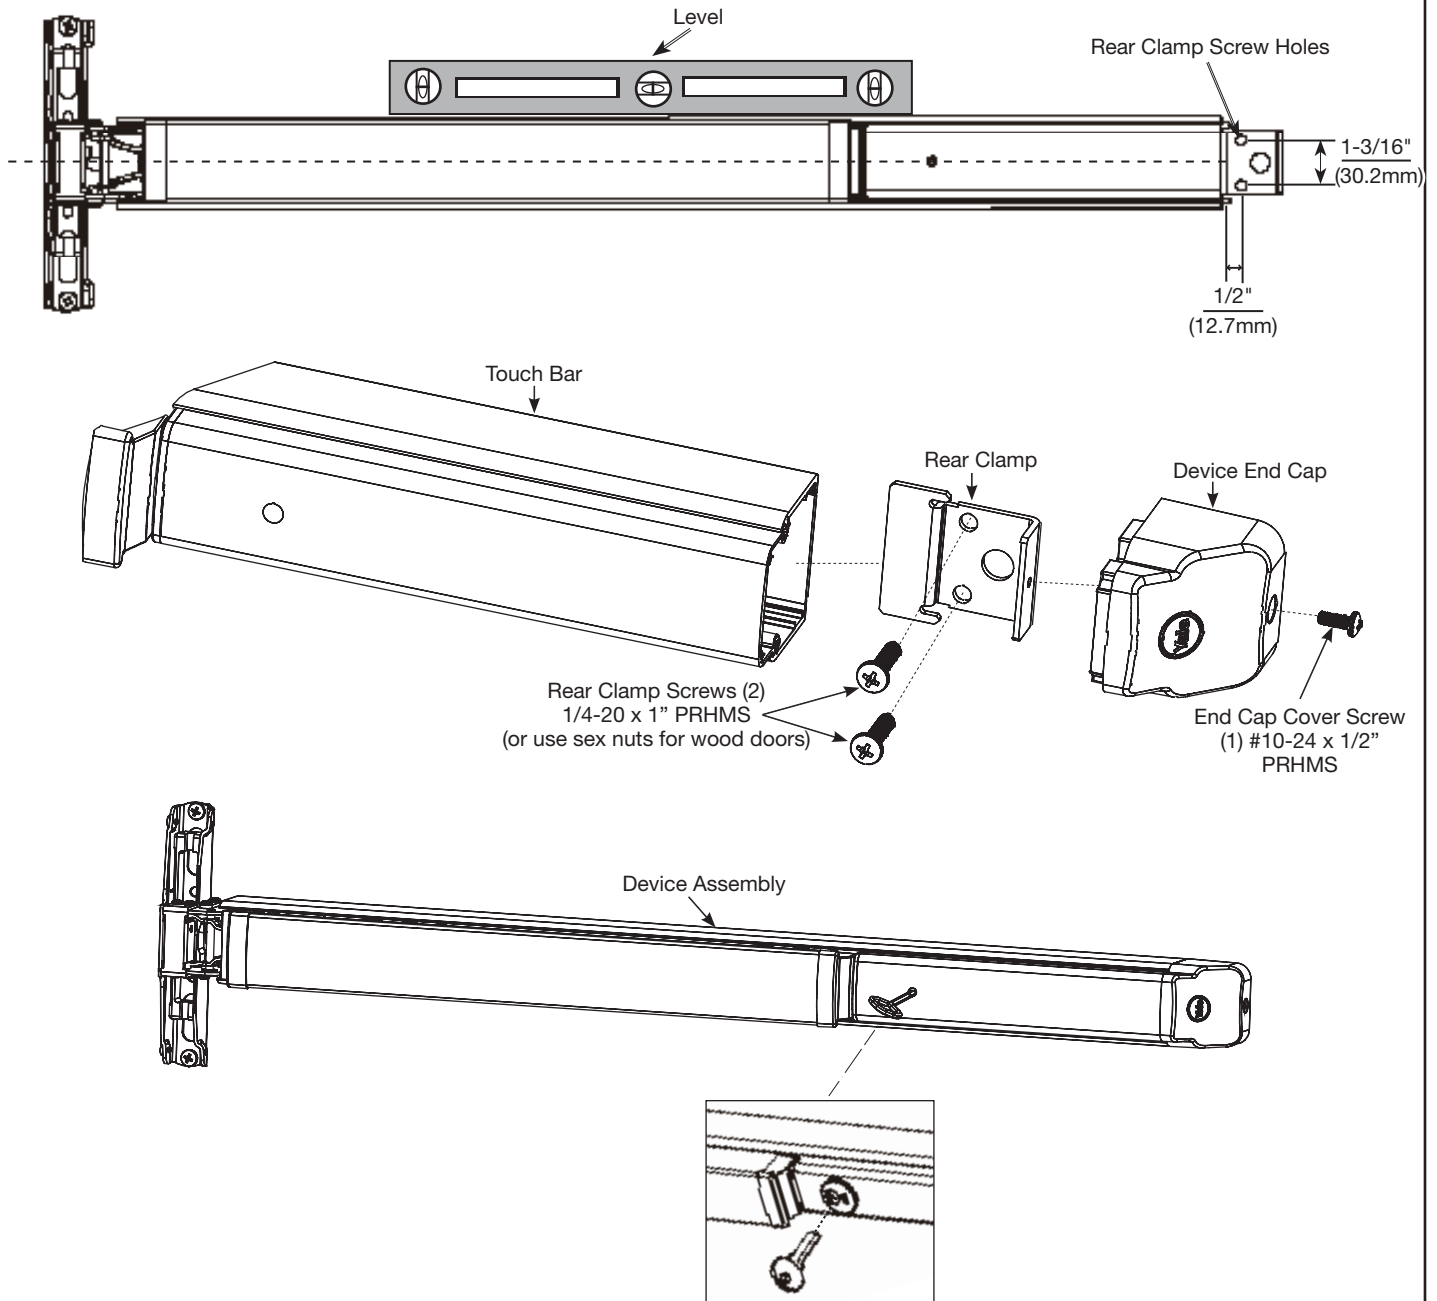

Figure 9: Install Rear Clamp & End Cap
1. With the device leveled, insert rear clamp, locate rear clamp holes and mark. Ensure rear clamp is pushed flush against device (Figure 9).
2. Using the rear clamp as a template, mark and drill holes for two (2) 1/4-20" screws.
4. Slide end cap in place and secure with one (1) #10-24 x 1/2" (12.7mm) PRHMS.